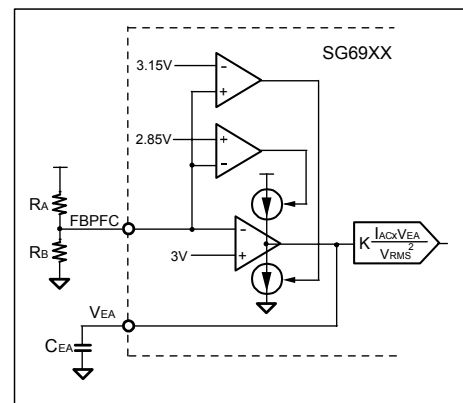

Fig. 6 Multi-vector Error Amp
To achieve good power factor, the voltage for V_{RMS} and V_{EA} should be kept as DC-value according to equation (12). In other words, a low-pass RC filtering for V_{RMS} and a narrow bandwidth (lower than the line frequency) of PFC voltage loop are suggested to achieve better input current shaping. The trans-conductance error amplifier has output impedance R_O ($>90k\Omega$). A capacitor C_{EA} (1uF ~ 10uF) is suggested to connect from the output of the error amplifier to ground (Fig. 6). A dominant pole f_1 of the PFC voltage loop is shown as:
Fig. 6 shows the block diagram of the multi-vector error amplifier. When the variation of the feedback voltage (FBPFC) exceeds $\pm 5\%$ of the reference voltage (3V), the trans-conductance error amplifier will program its output current to speed up the loop response. If R_A is open circuit, SG6902 will turn off immediately to prevent over-voltage on the output capacitor.
Assume R_A is $3M\Omega$, $R_B=36.5K\Omega$ and $R_C=60K\Omega$. Refer to Fig.6 .At high line input the maximum output voltage is: